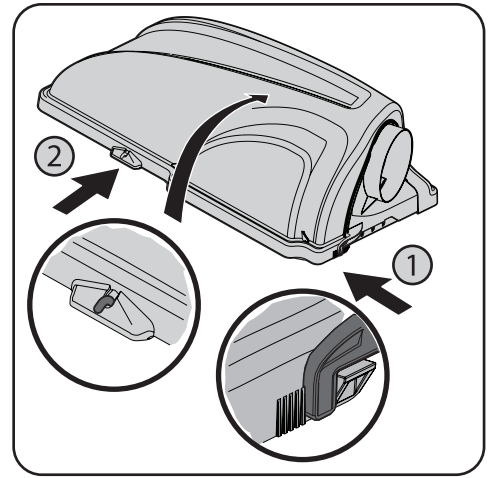

Figure 4-18
6. Open hood by pushing in on the rear, right-side tab with your right hand (1), and lifting the cover with your left hand in the center rear of the bagger cover (2) as shown in Figure 4-18.